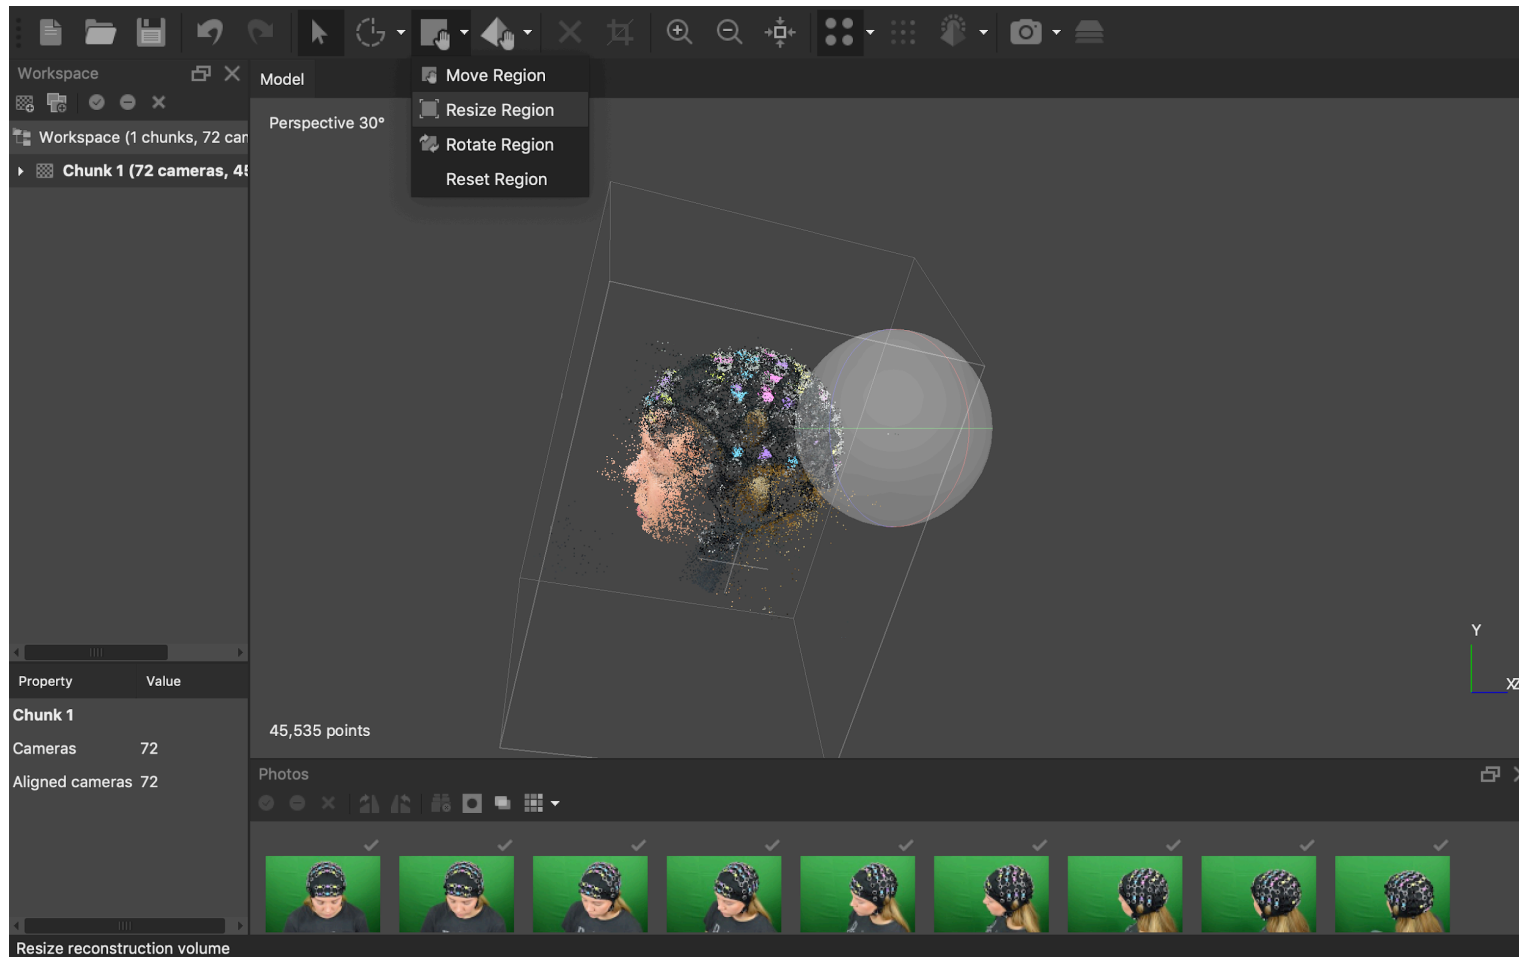

Figure 17. Resizing the region in Metashape
- Next, resize the selection box (Figure 17 and 18). You only want to have the area that you are interested in (e.g. the head) in the square. By making this selection you also reduce the processing time.